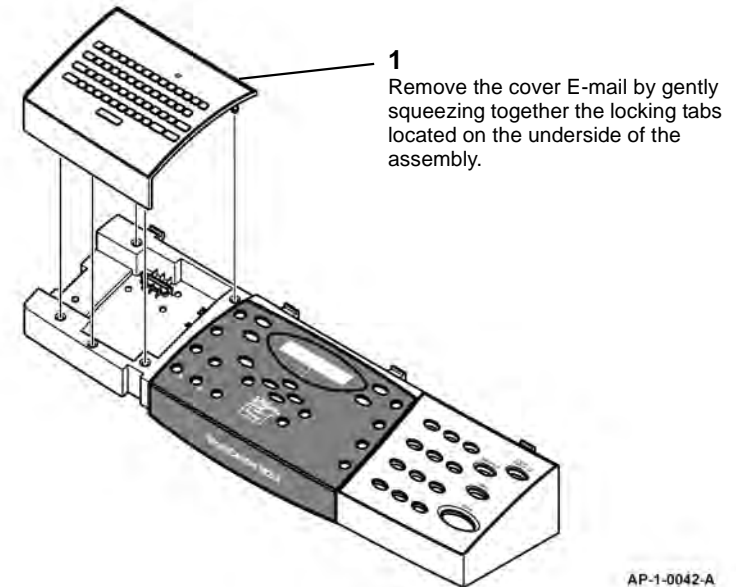

Figure 5 Cover E-mail removal
6. If installed, remove the cover E-mail, Figure 5.